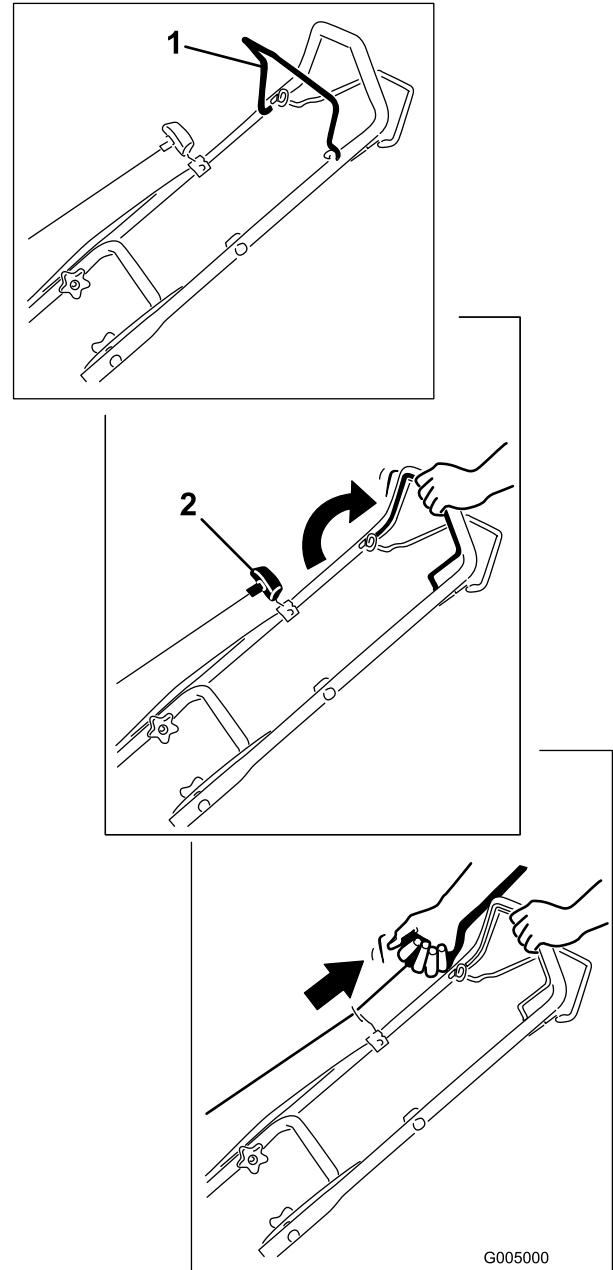

Figure 10
1. Hold the blade control bar against the handle (Figure 10).
2. Pull the recoil start handle lightly until you feel resistance, then pull it sharply. Allow the rope to return to the handle slowly (Figure 10).